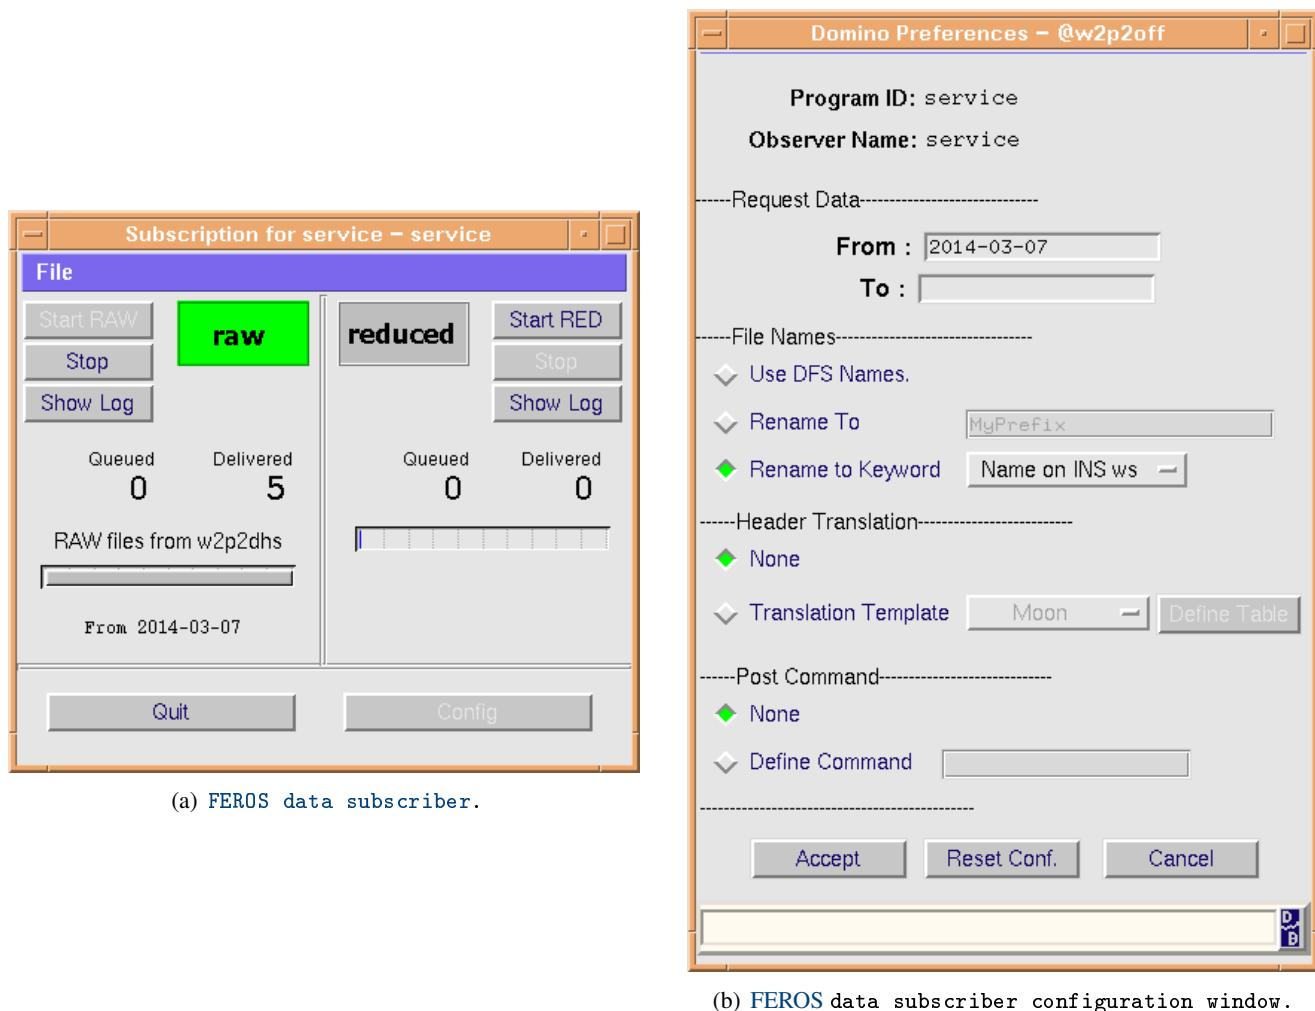

Figure 10.3: FEROS data subscriber.
- A. Stop **data subscriber** and **DRS** at the **DRS** computer (Fig. 10.3(a), p. 78).
- C1. Left click start **data subscriber** and configure it (Fig. 10.3(b), p. 78).